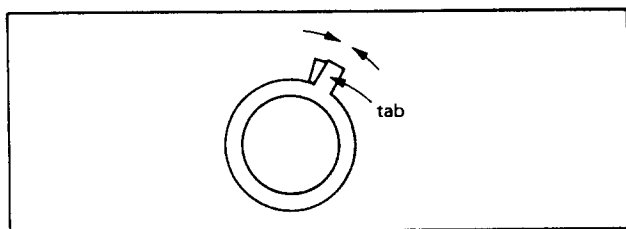

Fig. 2-3-2 6-pole magnet ring
- 2) Align the six-pole magnet's tabs mounted on the CRT neck. (see Fig. 2-3-2)